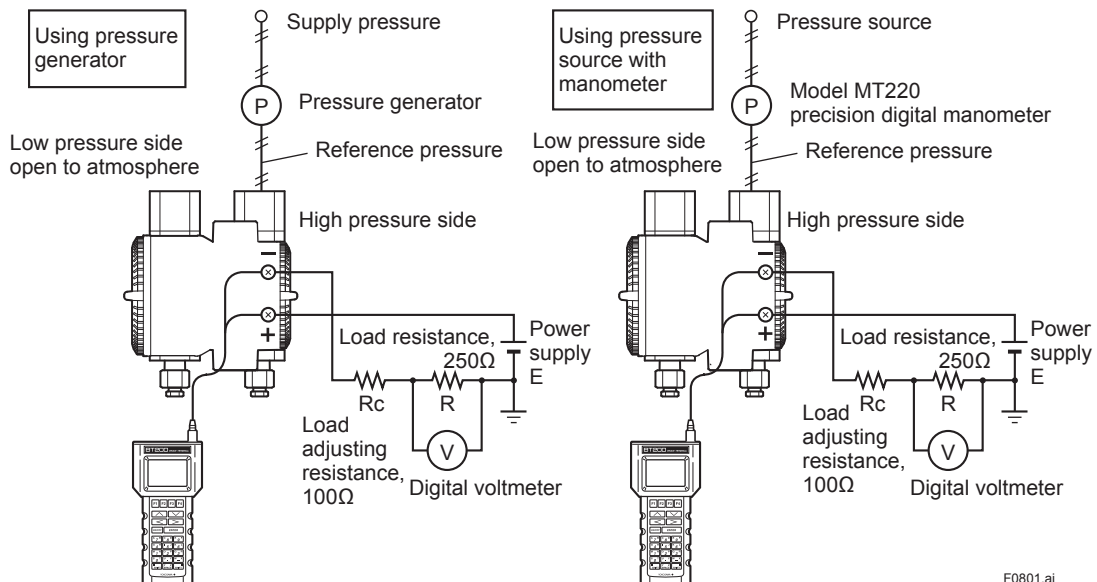

Figure 8.1 Instrument Connections (EJX110A, 4 to 20mA output)
- 1) Connect the transmitter and apparatus as shown in Figure 8.1 and warm it up for at least five minutes.
- 1) Connect the instruments as shown in figure 8.1 and warm up the instruments for at least five minutes (ten minutes for EJ□310□.)